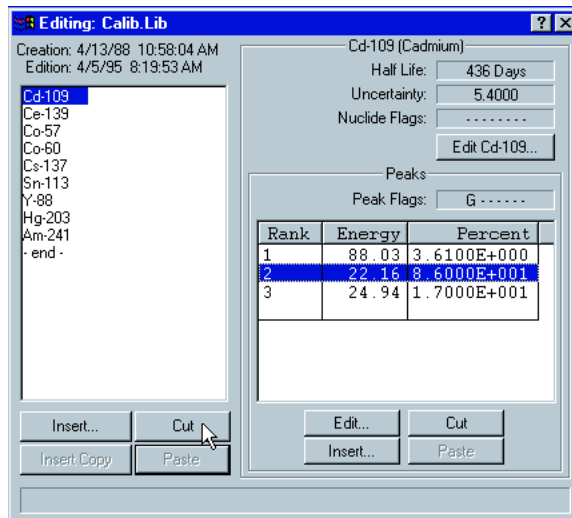

Fig. 16
1.15 Compare the list in the Calib library to the list of nuclides contained in the Standard Certificate for your standard source. You may delete nuclides from the list by highlighting the nuclide and selecting Cut (Fig. 16).